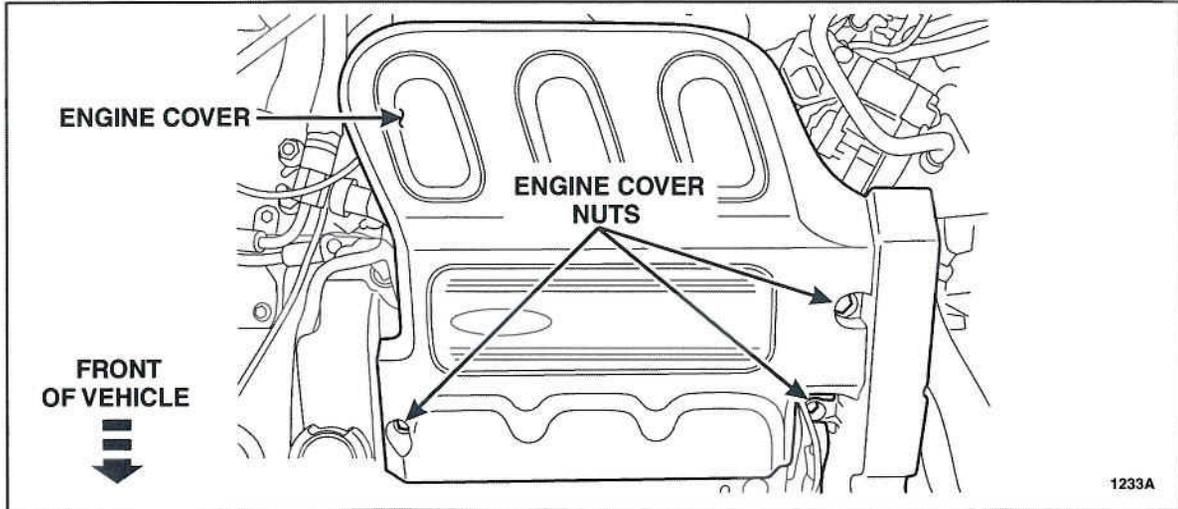

FIGURE 1
- Reinstall the engine cover and tighten the three nuts. See Figure 1.
1. Remove the three nuts and the engine cover. See Figure 1.